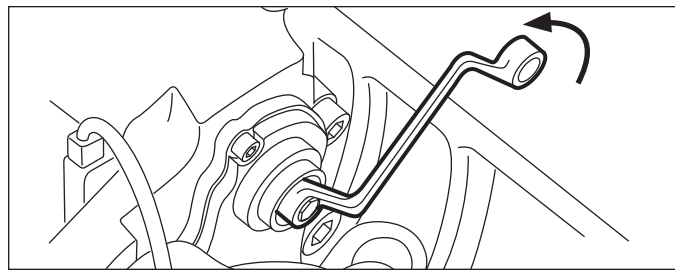

FIGURE 20 - BACKING-OFF (INCREASING) THE RUNNING CLEARANCE
- 4.2.2 Using a 10 mm. six-point box wrench, turn the Shear Adapter (61) **counter-clockwise** and listen for the sound of 3 clicks as the mechanism backs-off (increases) the running clearance. Note: Do not use an open-ended wrench as this may damage the adapter. See Figure 20.